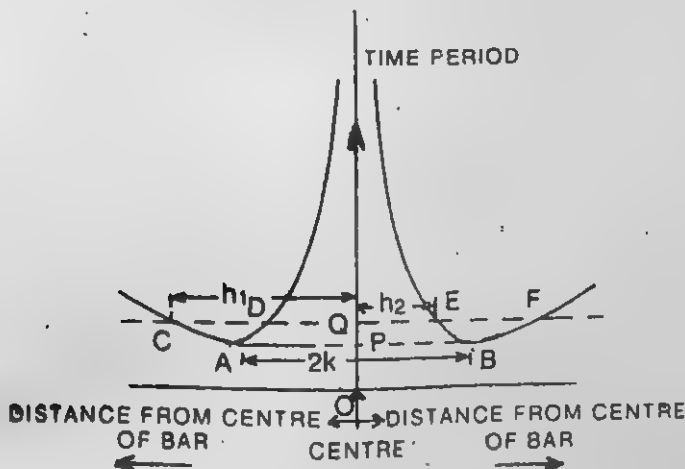

Fig. 21.2.
graph be plotted taking the periods of oscillation as ordinates and corresponding distances of the axis of suspension from the C. G. of the bar as abscissae, a graph of the type shown below (Fig. 21.2) will be obtained :
(iv) Join A and B (See Fig. 21.2). The line AB cuts the T-axis at P. The abscissa of P gives the position of the centre of gravity of the bar. Draw any line CDEF perpendicular to the T-axis and cutting the curve in four points C, D, E and F. Measure QC and QF (the mean of which gives h_1), QD and QE (the mean of which gives h_2), and also OQ (which gives the corresponding periodic time T. Then from the formula (3) given above calculate the value of g.